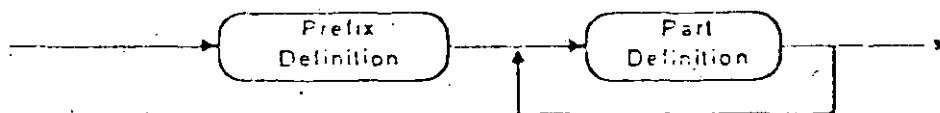

Figure 7-9. Syntax Diagram for a Library Source File
Figure 7-9 is an example of a syntax diagram. It represents the complete syntax for a library source file.
3. Junctions represent a connection point where you have the choice of selecting another path. For example, the syntax diagram for the library source file shown in Figure 7-9 has a junction after a part definition. You can choose to complete the diagram or to make another part definition.
4. You cannot continue along a path that goes against the arrows. For example, in Figure 7-9 after making a part definition you cannot choose to return to the prefix definition.
What are identifiers? Identifiers serve as placeholders for a more detailed level of syntax structure. They do not represent command syntax or tokens. Rather, they provide the ability to give an overview of the syntax. When you create the part, you must work down through all the nested identifiers. For example the syntax diagram for a library section file shown in Figure 7-9 has two identifiers and no tokens. This section will now expand each of those identifiers and present all the possible tokens.